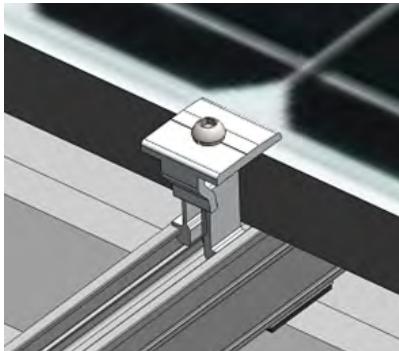

Figure 12
- Step 3: Place the first PV Module on the Rails and apply the Universal Clamp as the End Clamp and fasten slightly. Make sure the frame of the PV Module is fully in contact with the Universal Clamp as shown in Figures 12 and 13. Visually check the Universal Clamp and PV module are properly installed;